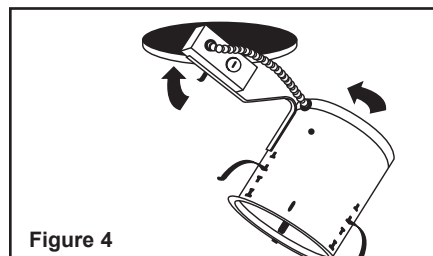

Figure 4
Step 4. Press housing through ceiling opening so it is flush to ceiling (Fig. 4). Push retention clips outwards until each clip tab clicks into position.